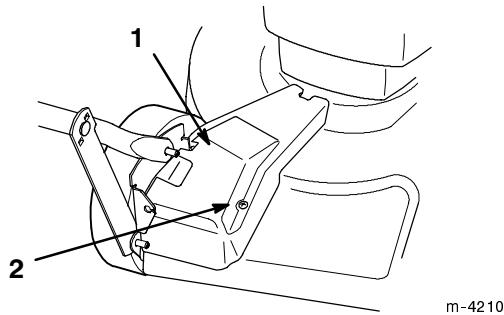

Figure 30
- With the engine off, remove the bolt that secures the belt cover (Fig. 30) to the lawn mower housing.